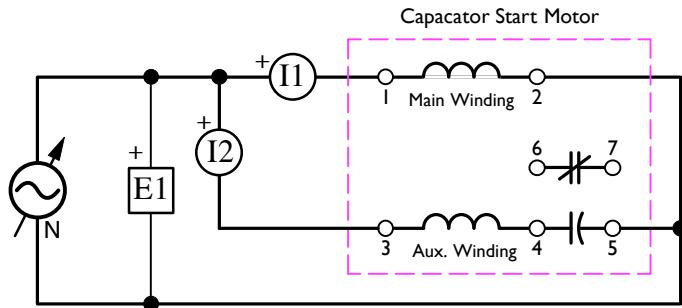

Figure 4.18: Capacitor Start Motor – Main and Auxiliary Windings, and Capacitor
- 41. Turn off the power and turn the voltage control knob fully counterclockwise. Modify the capacitor-start motor circuit by connecting the capacitor on the Capacitor-Start Motor module in series with the auxiliary winding as shown in Figure 4.18.